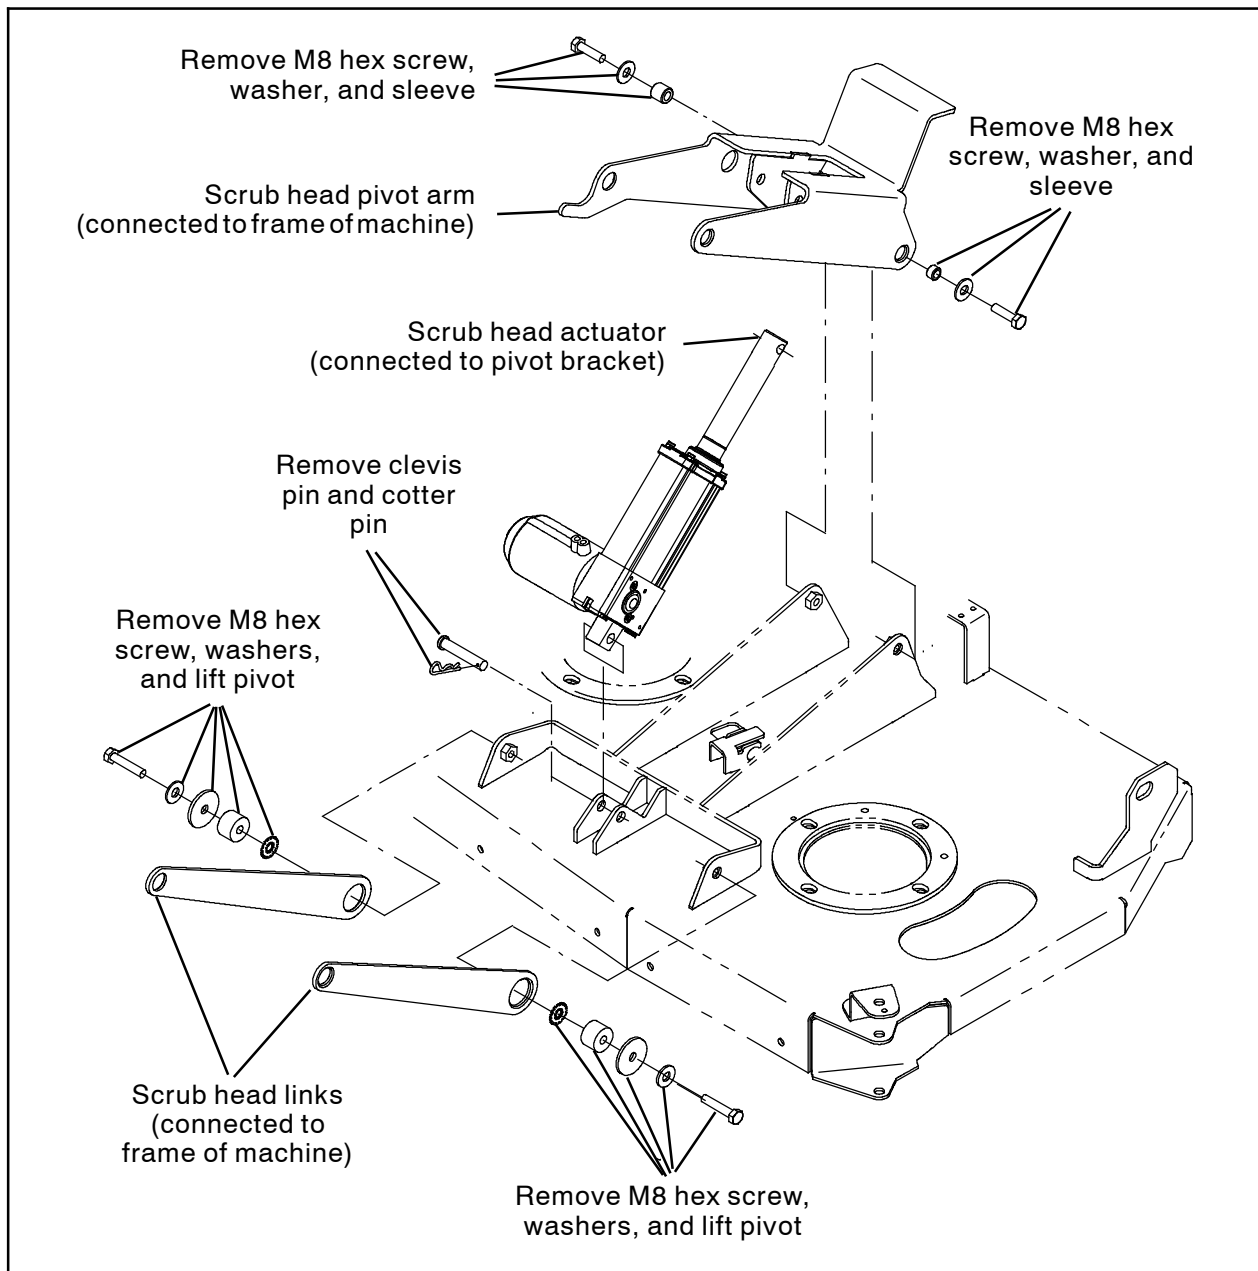

FIG. 1
3. Disconnect the actuator from the scrub head. Set the cotter pin and clevis pin aside. (Fig. 1)
4. Disconnect both scrub head links from the scrub head. Set the washers, hex screws, and lift pivots aside. (Fig. 1)
5. Disconnect the scrub head pivot arm from the scrub head. Set the washers, hex screws, and both sleeves aside. (Fig. 1)